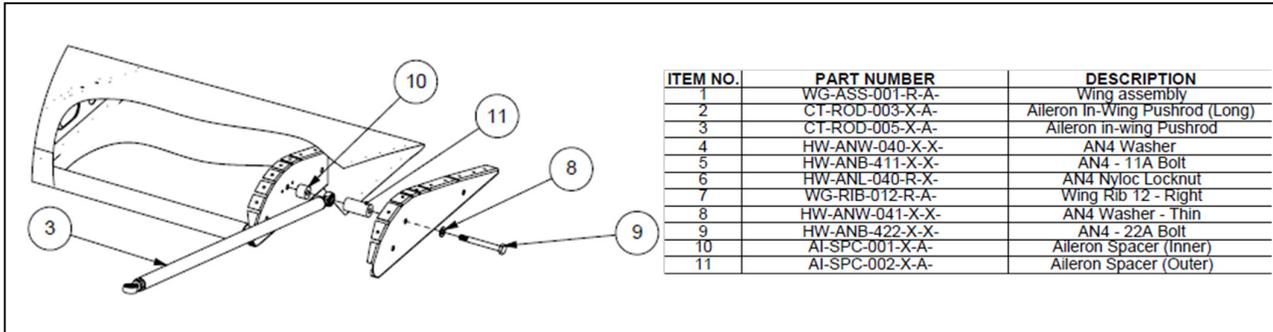

Figure 10: Aileron leading edge eyebolt assembly
Step 13. For the eyebolts located at the ailerons leading edge, remove the AN4 bolt (9) shown in Figure 10. To access this bolt, you will need to drop the flap. To do this follow steps 1 and 2 *only*, of the flap removal procedure (Option1). This procedure can be found in the applicable MAM shown in the table below. Remember to support the flap during this step as it may drop.
- Step 14. After bolt (9) has been removed, the eyebolt can be replaced with either a *type 1* or *type 2* eyebolt. Reconnect it to the aileron and pushrod (3), as shown in Figure 10. Support the aileron during this step as it may drop once the eyebolt has been removed.